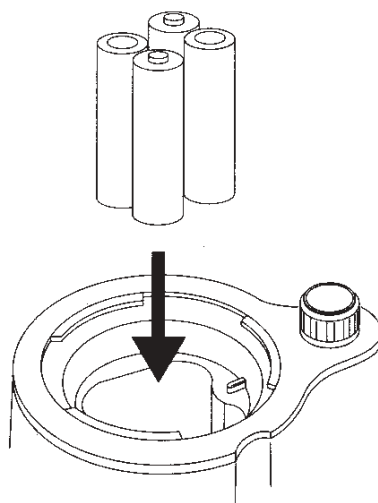

Figure 2
2. Make sure that the power switch is in the OFF position. Insert four batteries with the polarity shown in the battery compartment. (Figure 2)